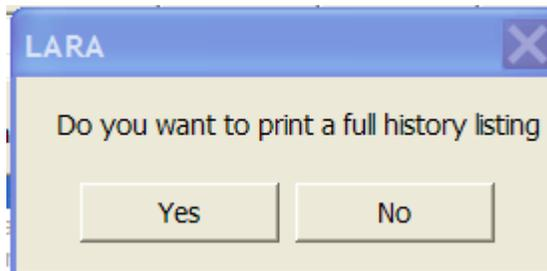

Figure 47. Confirmation
- (1) Use the pull downs to select CSN or EISN in the white boxes. Date is required and the pull down will display a calendar.
- (2) Press view report and the following screen will appear (Figure 47).